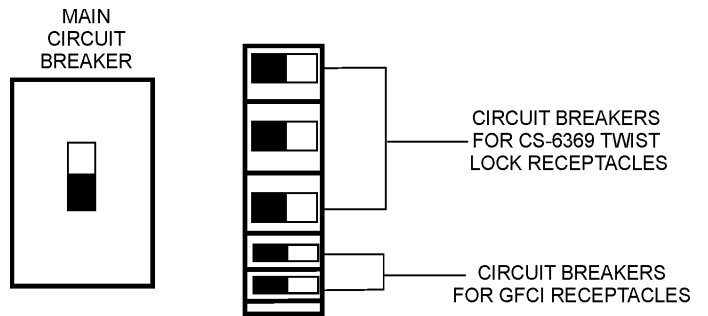

Figure 42. Main, Aux. and GFCI Circuit Breakers (OFF)
1. Place the **main, G.F.C.I.** and **aux.** circuit breakers (Figure 42) in the "OFF" position prior to starting the engine.